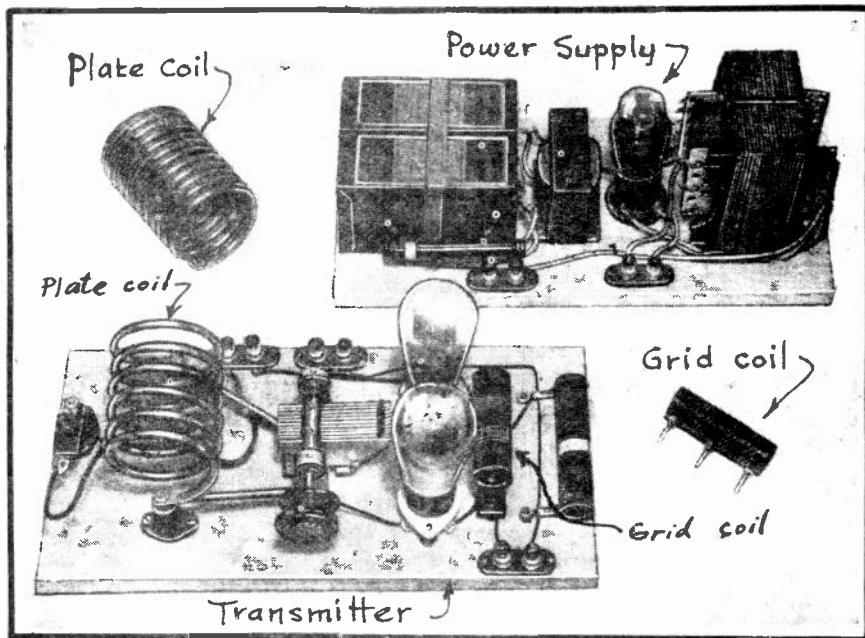

FIG. 12
THE SAME BASIC DESIGN AS JUST DESCRIBED RELATIVE TO THE ONE-TUBE TRANSMITTER CAN ALSO BE APPLIED TO A LOW-POWER PUSH-PULL TRANSMITTER. THE CONSTRUCTIONAL FEATURES OF THIS PUSH-PULL TRANSMITTER ARE SHOWN IN FIG. 12, WHERE YOU WILL SEE THE TRANSMITTER ITSELF, AS WELL AS THE POWER PACK.
13. AND BY STUDYING BOTH FIGS 12 AND 13 YOU WILL NOTICE THAT A PAIR OF TYPE-45 RECEIVER TUBES ARE EMPLOYED.